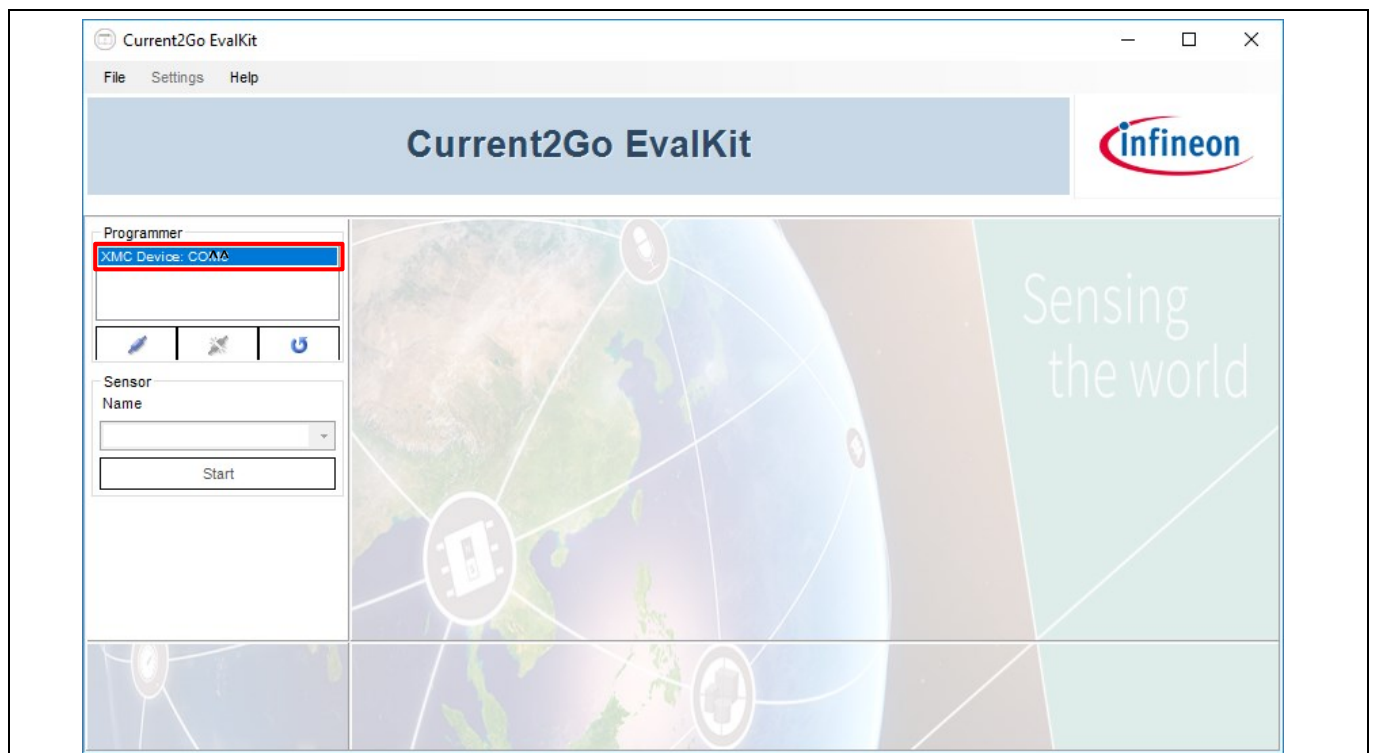

Figure 13 XMC Device Selection
- Select the “**XMC Device: COM6**” option in the “Programmer” dialogue box as shown in the below Figure 13 which is highlighted with red color box.